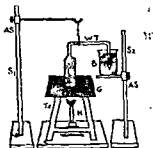

Fig. 5.1
2. To fill the liquid in the weight thermometer, suspend it from a thread and dip its mouth in the hot liquid contained in a beaker as shown in the fig. 5.1. Now heat the weight thermometer so that air inside it will expand and will go out. On cooling the air inside it contracts and the liquid rushes in.